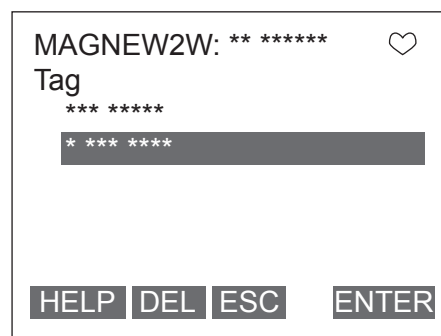

Figure 7-77
Figure 7-77 will then be displayed.
2. Once the display as shown in Figure 7-77 appears, use the arrow key up, down, right or left and numerical keys to enter the number. After entering, press F4 (ENTER). If F3 (ESC) is pressed here, the selection will be canceled and the display will return to the Basic setup menu.